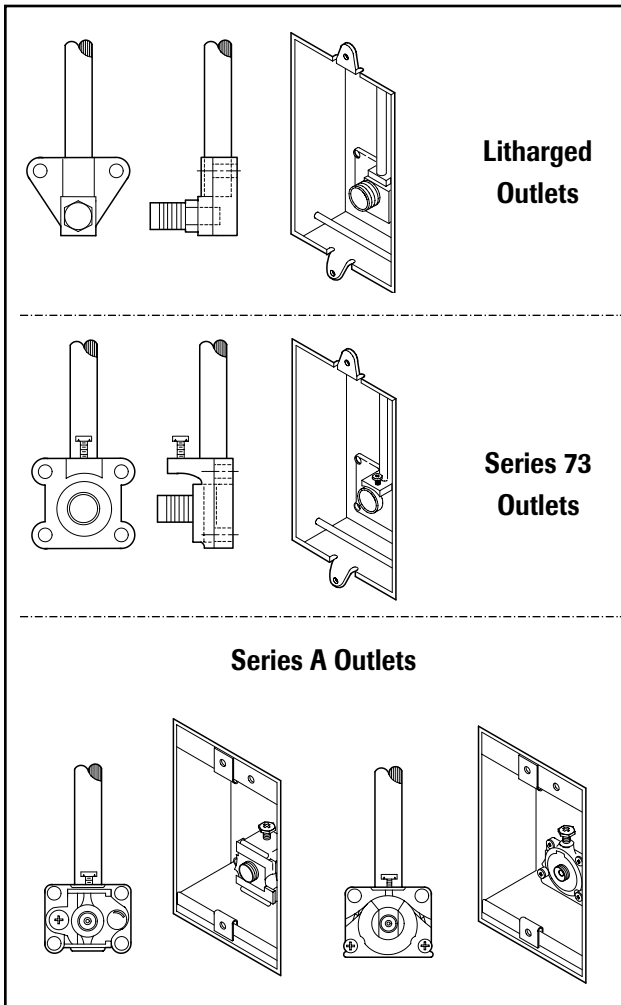

Figure 1: Identification Components
Update kits, item 1, page 1 are used with all outlet series types. Connectors, items 2, 3, and 4, page 1 are used with specific series types. Coverplates and standoffs, items 5 through 8, page 1, are also used with specific series types. Figure 1 below shows key